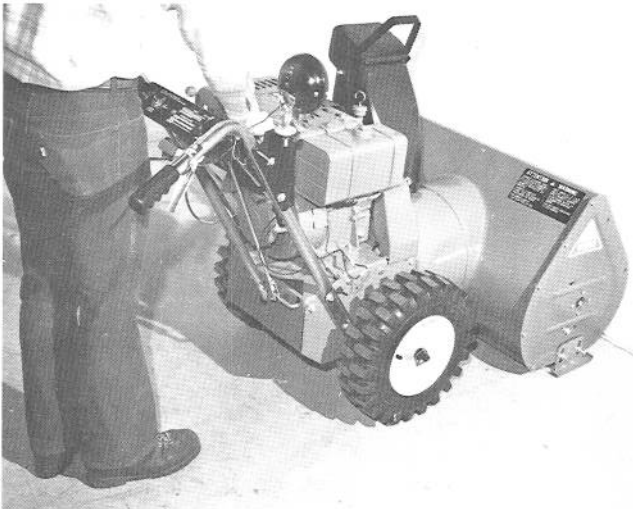

Figure 20
2. Start the engine, engage the wheel clutches and shift to any forward gear. Slowly run the unit against something solid (a wall or post) (Fig. 20). Return the shift lever to neutral; the wheels should stop driving. If they don't, turn the key to off. Turn the U-shaped bracket upward 1/2 turn. Repeat if necessary. Refer to Check Gear Shift Adjustment, page 8.